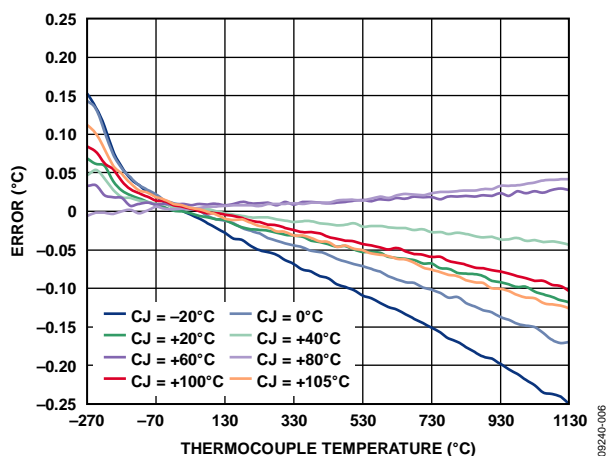

Figure 6. Error vs. Thermocouple Temperature for Fixed Cold Junction (CJ) Temperature
Figure 6 shows a plot of the thermocouple solution error over various thermocouple temperatures using various fixed values of cold junction (CJ) temperatures. Total solution error $\leq \pm 0.25^\circ\text{C}$ is achieved over a wide temperature range. Note that the accuracy of the solution can be further improved by performing a system calibration of the AD7793 ADC.